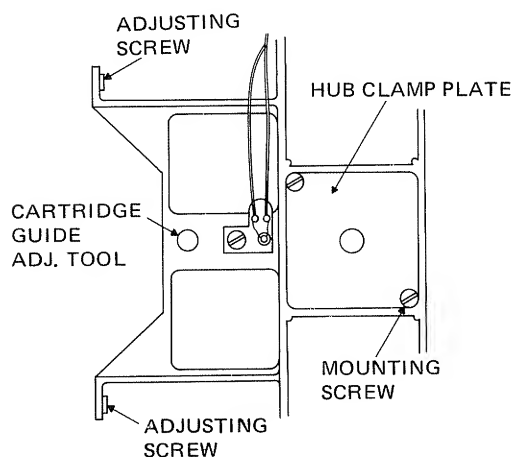

FIGURE 6 CARTRIDGE GUIDE ADJUSTMENT
- h. If item 'g' is ok, adjust down stop screw (Figure 6) clockwise until timing is met.
- a. Remove hub clamp plate. Reference Figure 6.
- a. Insert the shoulder screw (tool P/N 50377-1) through the adjustment hole in the cartridge guide and screw completely into the base casting (hand tight). Reference Figure 6.